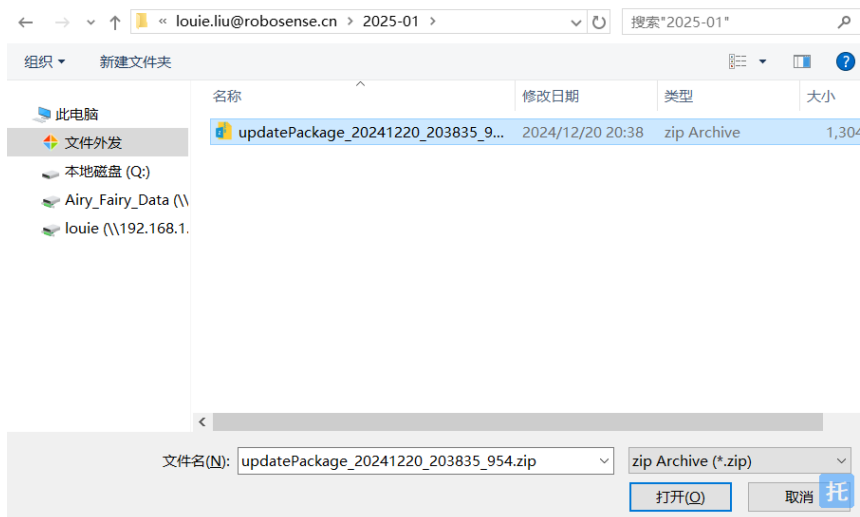

Figure 22 Select the file in the path where the upgrade package is stored
- (2) Select the folder corresponding to the firmware to be upgraded, select the firmware to be upgraded, and click "Open" (no Chinese characters appear in the path), as shown in Figure 22 ;